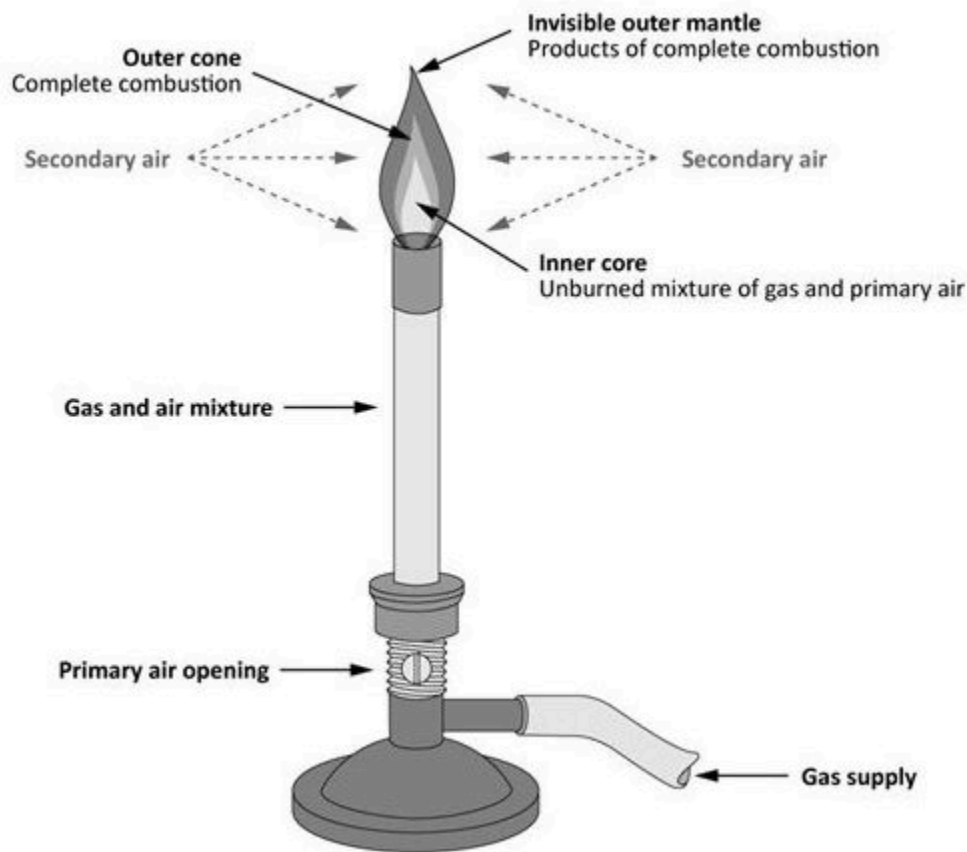

Figure 2 Bunsen Burner
- Figure 2 “Forced draft burner” by Camosun College is licensed under a CC BY 4.0 licence (<https://creativecommons.org/licenses/by/4.0/>).
blue flame is the result of premixing primary air with the fuel. The remainder of the air necessary for combustion is supplied by the secondary air, from around the flame. A stable atmospheric Bunsen burner flame has several color zones. Each of these zones (Figure 2) marks a stage in burning of the gas.